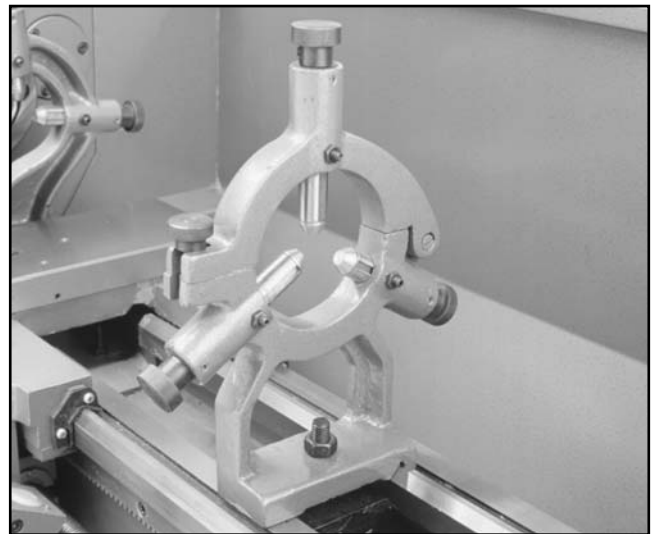

Figure 5. Steady rest in place.
2. A single hex bolt, along with a nut and washer, is used to hold the steady rest in place. **See Figure 5.**